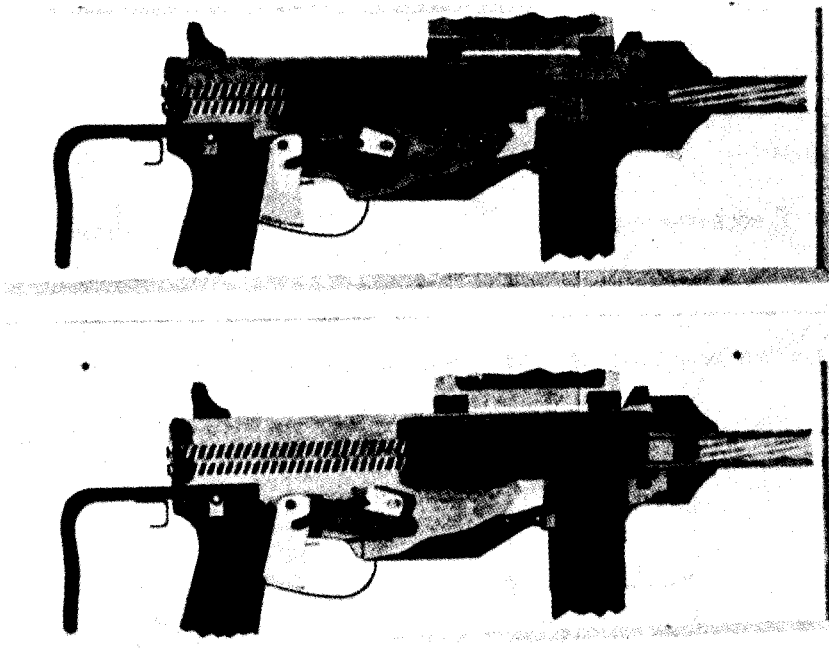

Figure 32. A wooden working model.
A large-scale working model (fig 32) is an excellent training aid for teaching functioning of the submachinegun. Figures 33 ① through ③ show the dimensions of the parts, and a detailed plan of construction is given below.
c. Position the rails for the barrel (B), place the cartridge between the rails, and fasten the rails to the receiver with screws.
d. Position the guide rod (C). The bottom of the guide rod should be 4 ⅞ inches below the top of the receiver. Fasten it to the receiver with screws.
f. Position the guide rod retaining plate (D), and fasten it to the receiver with screws.
g. Position the magazine follower (E) by placing the cartridge on top of the follower. Move the bolt forward. The bolt will push the cartridge forward; guide it (by hand) into the chamber. Mark a path for the lug of the cartridge. Recess the path of the lug (A) to a depth of ¼-inch. When the model will feed and chamber the cartridge fasten the follower to the receiver.
h. Assemble the trigger, connector, and sear (F), using a 1-inch dowel rod.